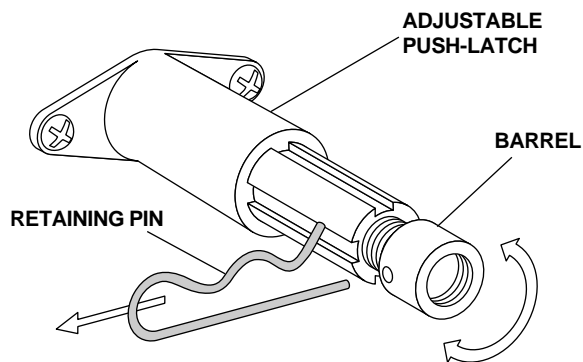

FIGURE 40
1. Remove the drawer, then remove the retaining pin from the barrel of the push-latch (see *Figure 40*).